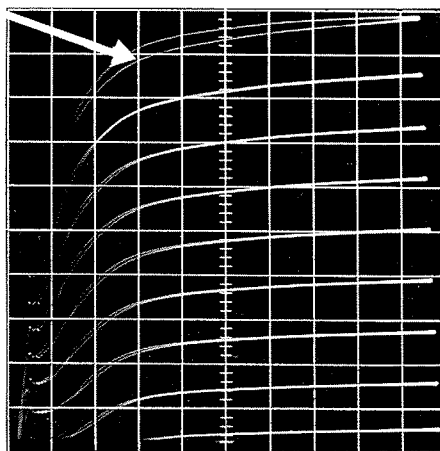

Figure 1
- B. Switch TEST POSITION switch to GRID A and note a family of curves (see Figure 1).